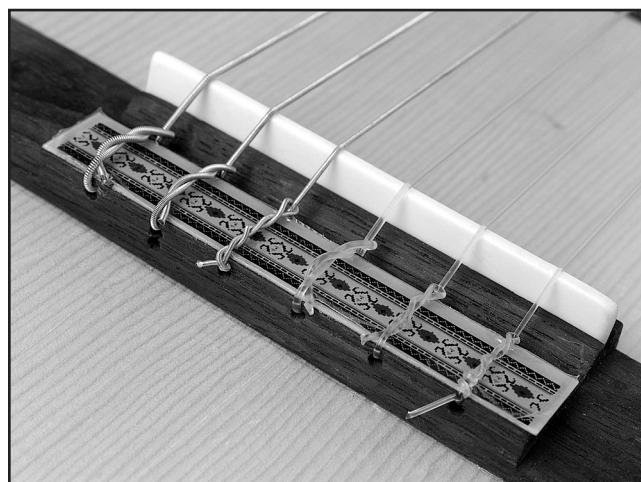

Figure 12. Correct string knots.
2. Tie the strings as shown in **Figure 12**.